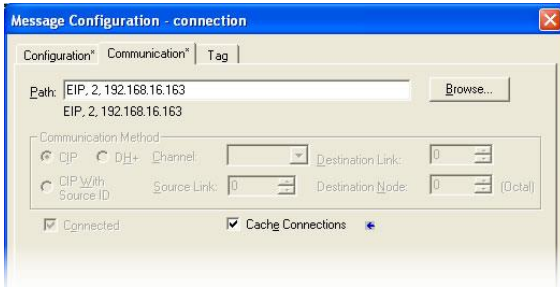

Figure 55: Setting the Communication Path
- d) “Communication” tab settings (refer to Figure 55):